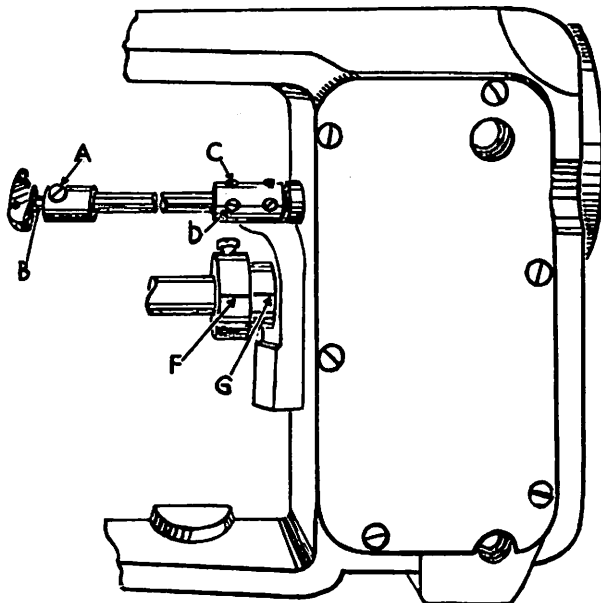
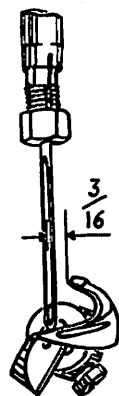
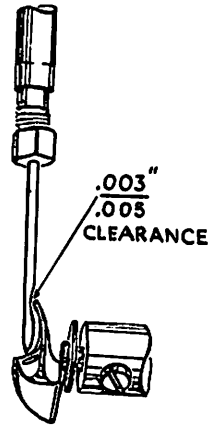

Fig. 1
Fig. 2
Fig. 3
The hook should be placed in the hook shaft so that the set screw (A, Fig. 1) in the shaft bears against the flat (B) on the shank of the hook and the set screw should be firmly tightened. With the needle bar in its lowest position, the hook should be set so that its point is $\frac{3}{16}$ inch from the center of the needle (Fig. 2). Gauge No. 21225-3/16 can be used advantageously in making this adjustment. In order to obtain the above setting when the hook is out of adjustment, it becomes necessary to re-time the hook shaft.
In re-timing the hook shaft, the two screws (C,D, Fig. 1) in the hook shaft coupling should be loosened so the hook shaft turns freely. The shaft should then be turned with the fingers and the hook located properly, maintaining the needle bar in its lowest position. Retighten coupling screws securely.
The hook should also be set laterally so there is approximately .003 inch to .005 inch clearance between the spot in the needle and the point of the hook (Fig. 3). This is done by loosening set screw (A, Fig. 1) and moving the hook to the left or to the right as may be required and retightening the screw.